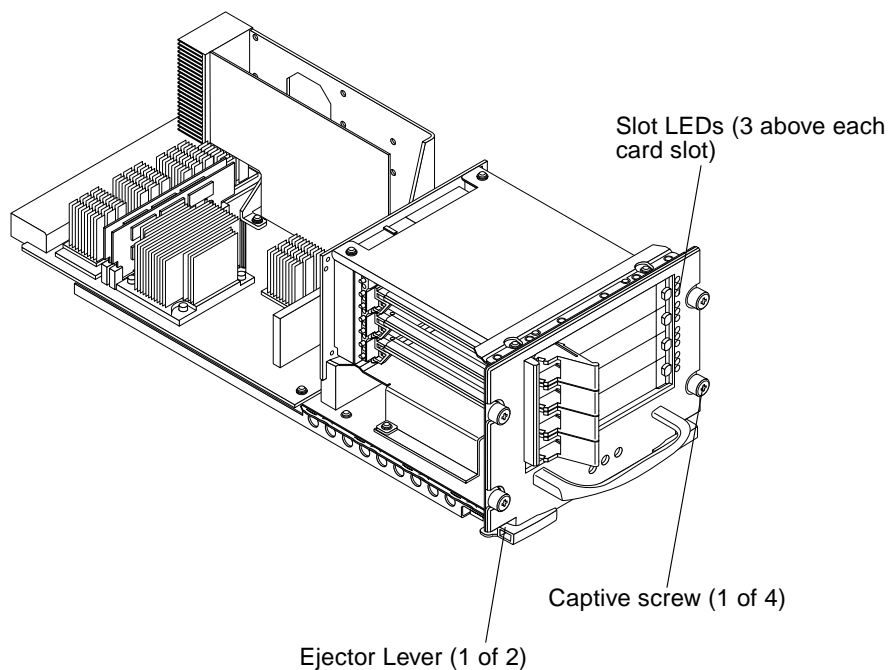

FIGURE 2-3 Sun Fire Link Assembly
3. **Loosen the four Phillips captive screws (FIGURE 2-3).**
7. **Tighten the four captive Phillips screws (FIGURE 2-3).**
There are three LEDs (*slot LEDs*) for each card slot on the Sun Fire Link assembly (FIGURE 2-3). When installed in slot IB8, the LEDs are at the bottom of the assembly. When installed in slot IB9, they are at the top of the assembly. TABLE 2-2 notes the slot LED functions.